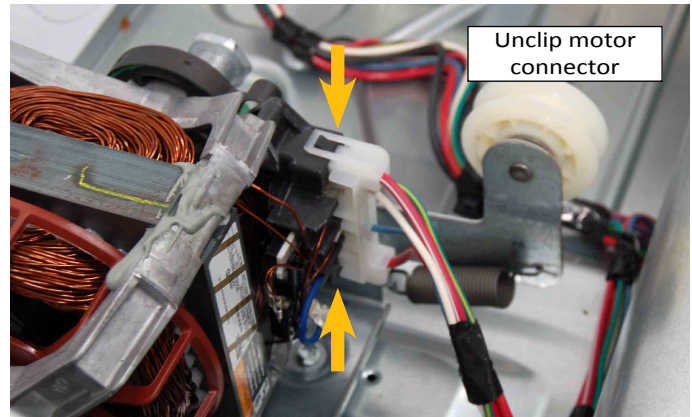

Figure 2
7. Lift the locking tabs on the top and bottom of the motor harness plug and disconnect the plug from the motor terminals. See Figure 2.